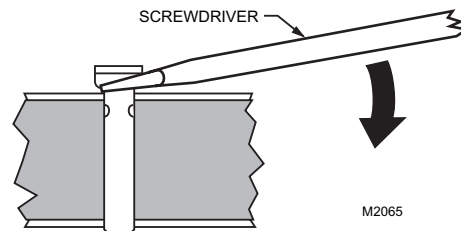

Fig. 8. Lifting range stop pin out of its slot.
3. Insert the range stop pin into the appropriate (cw or ccw) 45° or 60° slot. The range stop pin clips into its final position only after the pin passes through both actuator plates (see Fig. 7). The range stop pin should snap into position and not be removable manually (see Fig. 8).